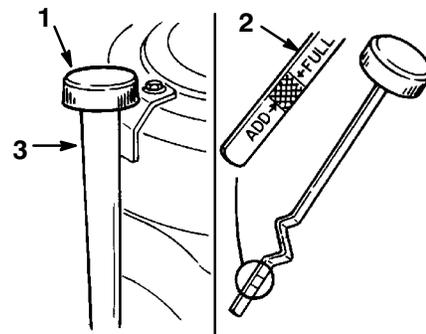

Figure 20
3. Clean around the oil dipstick (Fig. 20) so dirt cannot fall into the filler hole and damage the engine.
4. Unscrew the oil dipstick and wipe the metal end clean (Fig. 20).
5. Slide the oil dipstick fully into the filler tube, do not thread onto tube (Fig. 20). Pull the dipstick out and look at the metal end. If oil level is low, slowly pour only enough oil into the filler tube to raise the level to the "FULL" mark.
6. Slowly pour approximately 80% of the specified amount of oil into the filler tube (Fig. 20). Now check the oil level; refer to Checking Oil Level, page 21. Slowly add additional oil to bring to "FULL" mark on dipstick.